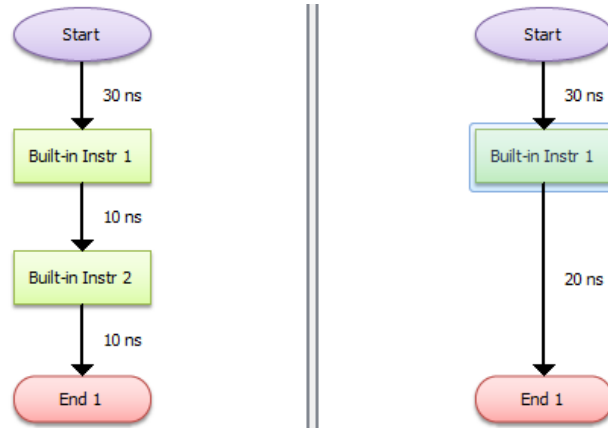
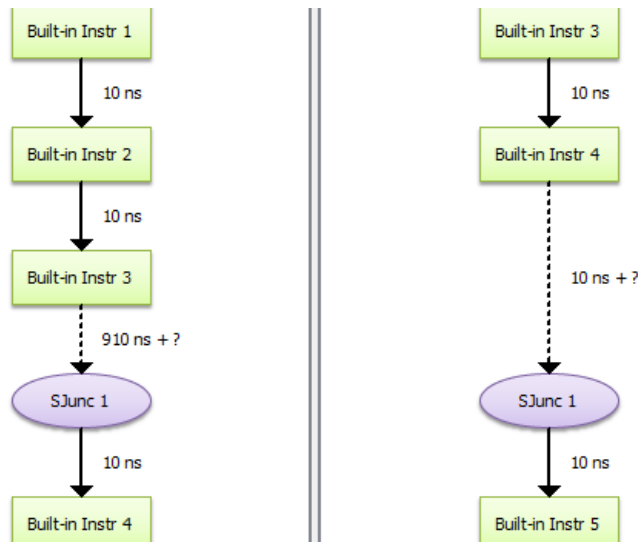

Figure 3: Flowcharts of two modules, showing the Start and the End Statements
Figure 4: A Synchronized Junction Statement (ellipse-shaped element) can also be used to synchronize flowcharts
- Solid Arrows: Normal arrows which connect statements. They can have a well defined time at programming time, or they can show a time uncertainty with a question mark (e.g. Figure 4).
Every flowchart begins with a Start Statement (Figure 3), which is in fact a Synchronized Junction Statement (Figure 4). This statement ensures that all the hardware modules in an HVI start the execution fully synchronized.
Junction Statement: The Start Statement is really a Junction Statement (Synchronized Junction (page 5)), and therefore can be used as a destination for Conditional Statements (Figure 4).
The End Statement indicates the end of the HVI execution, and must be placed by the user to terminate the HVI properly (Figure 3).
Synchronization Recovery: In addition to operate as a destination for conditional jumps, the Synchronized Junction Statement is ideal to perform synchronization recovery (Figure 4).